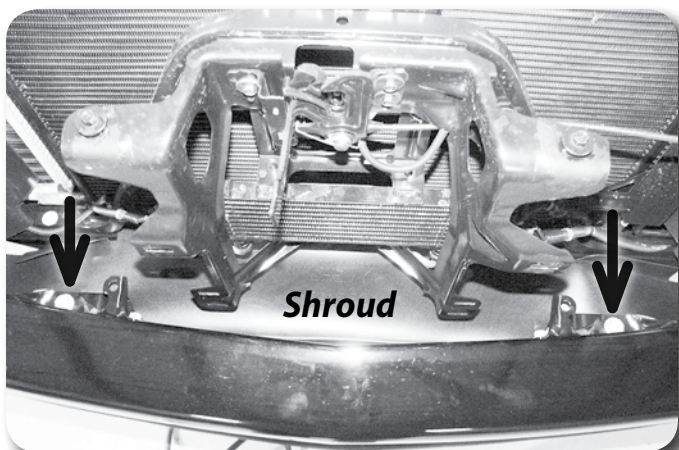

Figure 4
5. Disconnect the rubber core support shroud that runs from the core support **Figure 4**. Disconnect the shroud from the bumper only (4 plastic push-in style retaining clips).
6. Remove the two bumper bolts that mount the bumper to the frame horns **Figure 4** and remove the bumper from the vehicle.